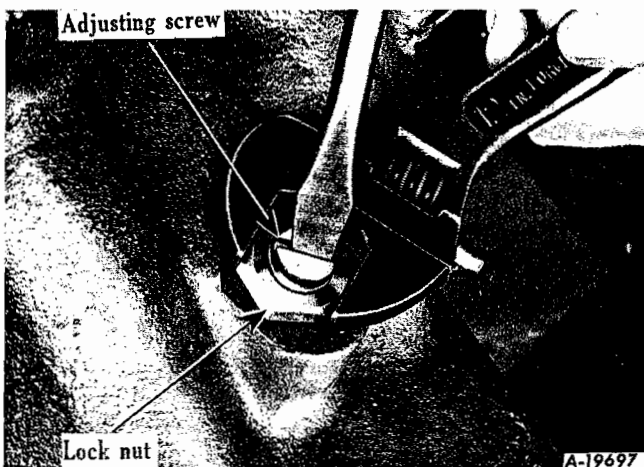

Fig. 10 - Adjusting clearance of thrust block. Turn adjusting screw out of carrier 1/4 turn to obtain .010 to .015 inch clearance.
2. Install adjusting screw and lock nut. Tighten adjusting screw to force thrust block against gear, then back off one quarter (1/4) turn and lock securely with lock nut (Fig. 10). Clearance between back face of gear and thrust block is .010 to .015". CAUTION: Be sure that the adjusting screw end is seated properly in the thrust block hole.